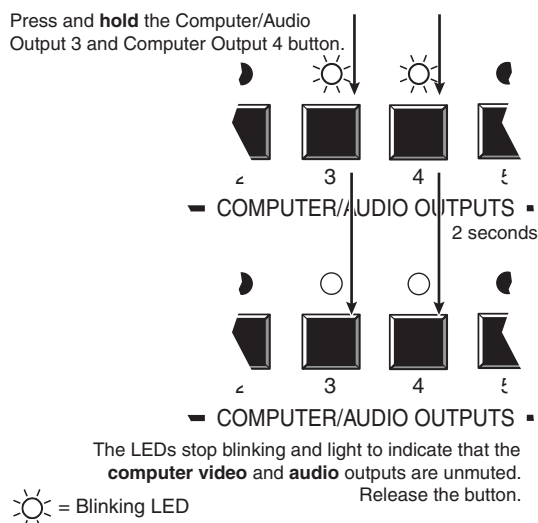

Figure 3-36 — Unmute the outputs
5. **One at a time**, press and **hold** the Computer/Audio Output 3 and then the Computer/Audio Output 4 buttons (figure 3-36) for approximately 2 seconds until the buttons lights steadily. The output 3 and output 4 video and audio signals are unmuted.